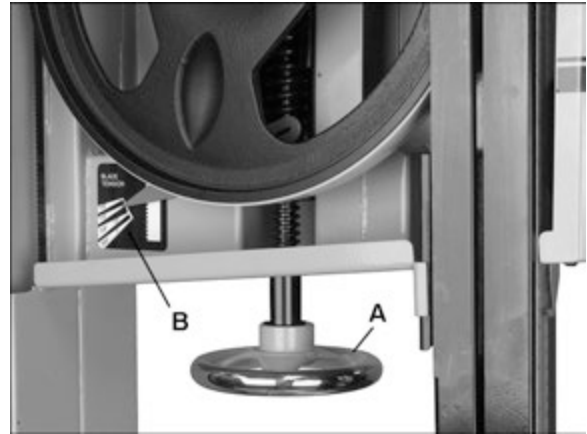

Figure 20
5. Rotate tension handwheel (A, Figure 20) until scale pointer (B) indicates width of installed blade.